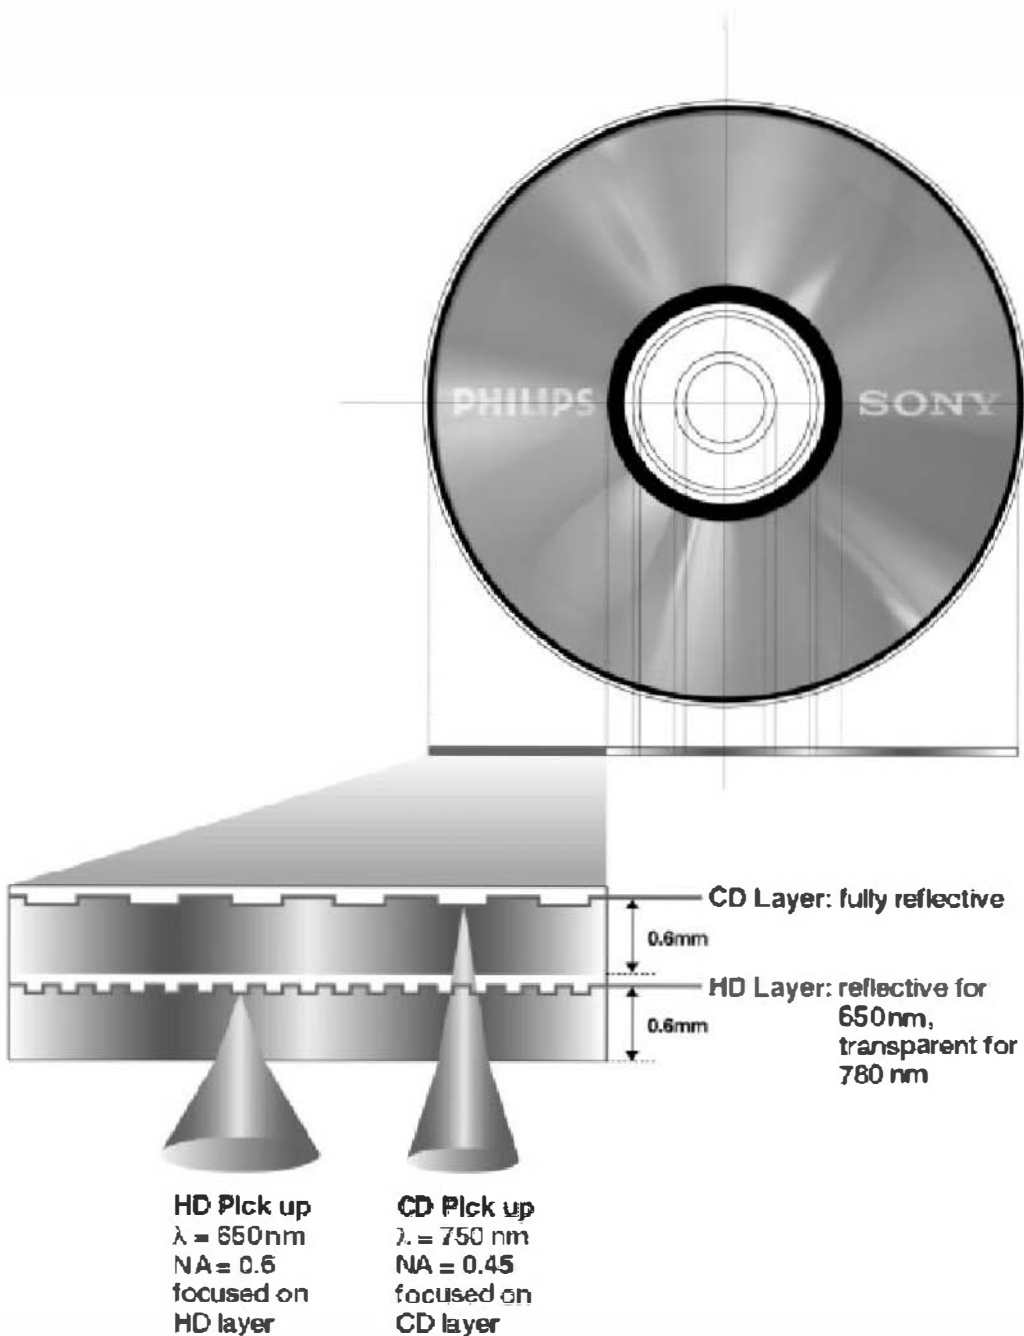

Fig.7-1 A Super Audio CD contains a high-density layer and a conventional CD layer on the same disc. (Courtesy Sony Corporation)
SACD offers the possibility (but not the requirement) of a “hybrid” disc containing two layers on the same disc. The layer closer to the disc's surface contains conventional 44.1kHz/16-bit audio that can be read by any CD player; the lower layer holds the high-resolution or High Density (HD) information (see Fig.7-1). This key element of SACD provides backward compatibility with the world's more than 1.7 billion CD players. The advantages of backward compatibility are manifold: a single inventory for record companies and music retailers, and the ability to play the same disc on CD or SACD players. Moreover, consumers needn't make a conscious decision to stop buying music in one format (CD) and start buying into a new format. The transition from CD to SACD can be gradual and painless, particularly as SACDs don't cost much more than CDs. Indeed, some consumers buying a hybrid SACD may be unaware that the disc is not a conventional CD.